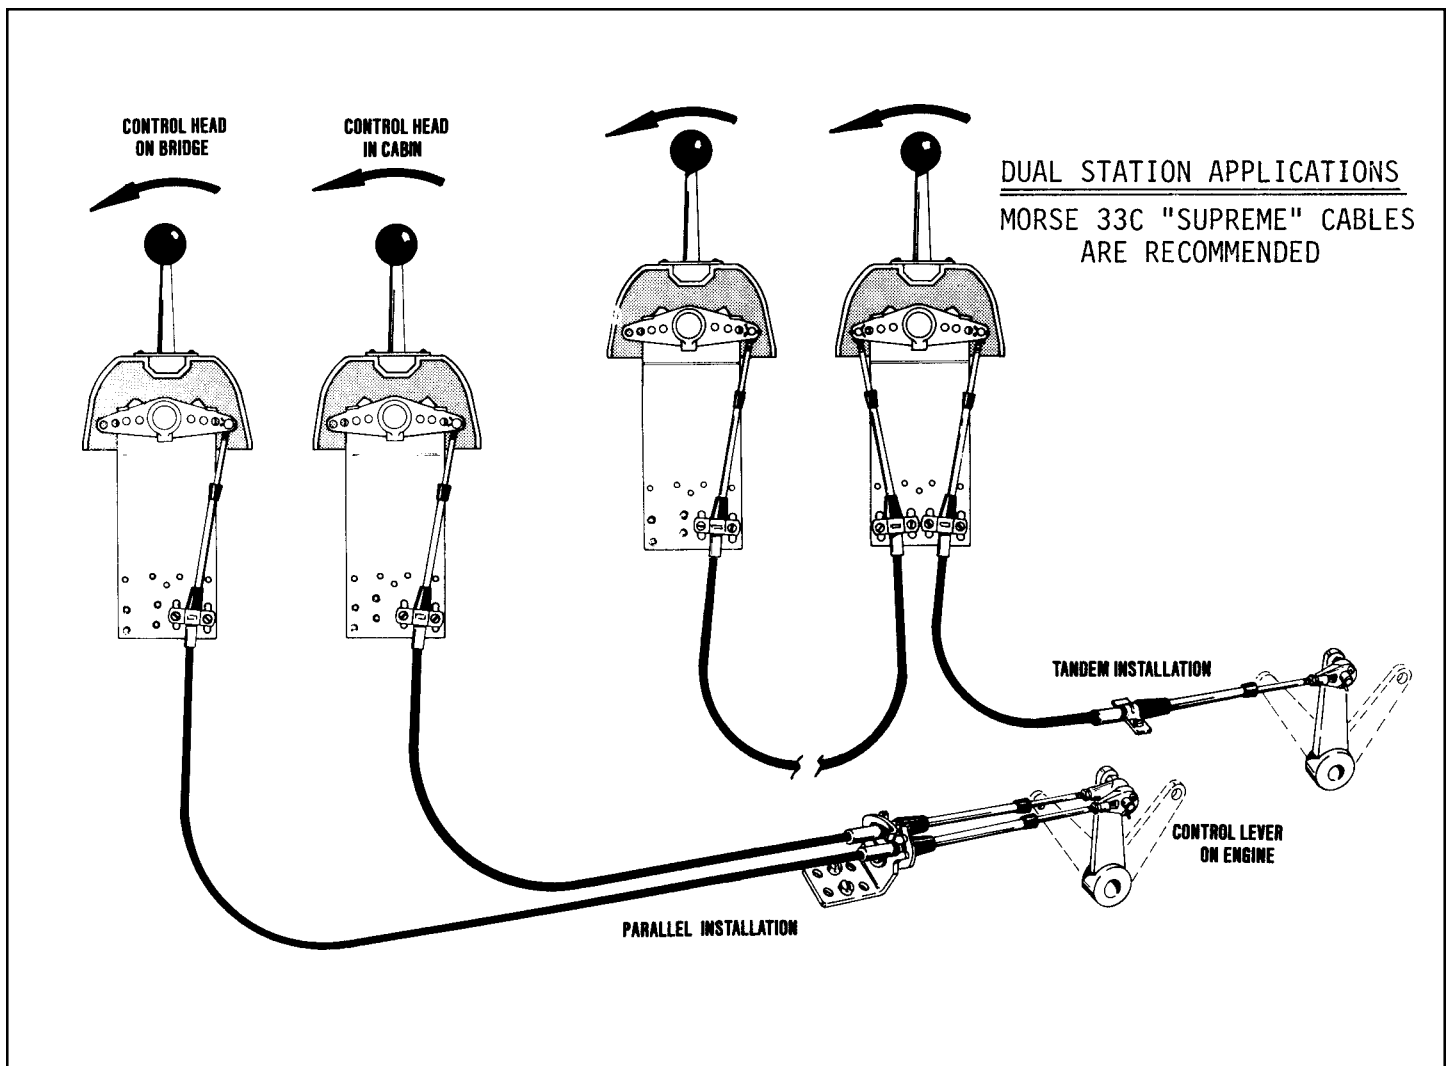

FIGURE 5
1. Typical dual station applications are shown in Figure 5.